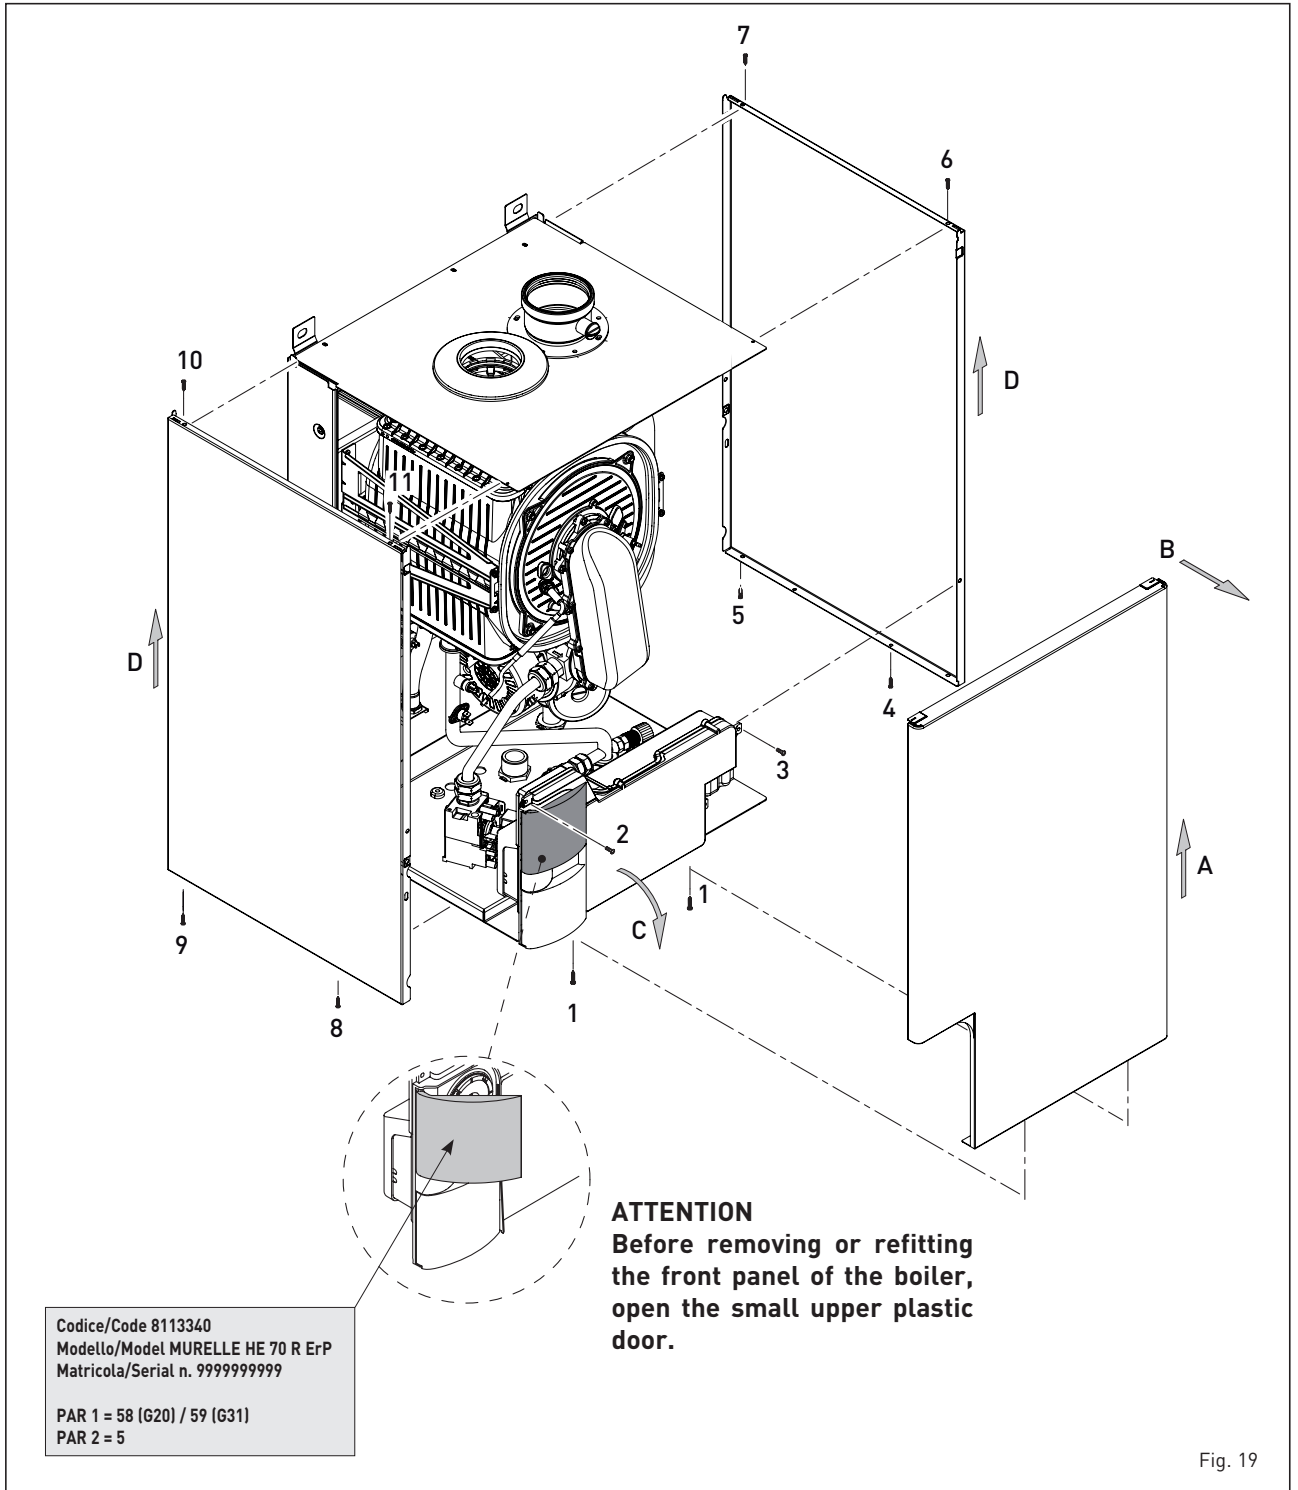

Fig. 19
4.4 DISASSEMBLING THE SHELL (fig. 19)
pletely remove the shell, as shown in figure 19.